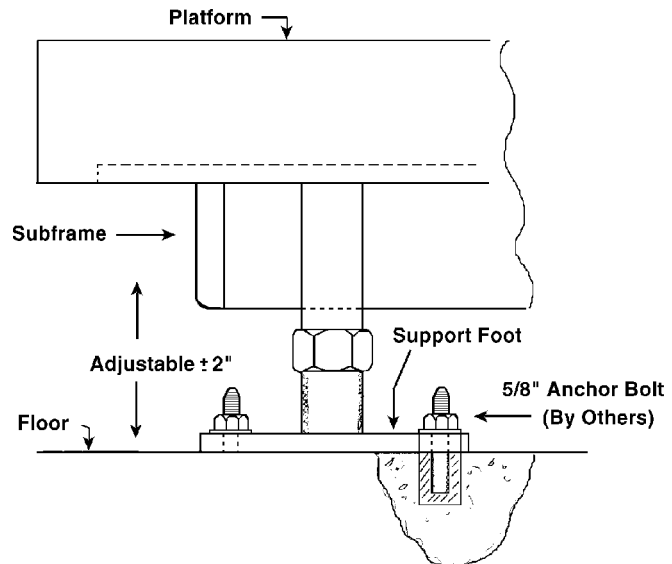

Figure 2-3: Anchoring the Scale Subframe
4. Once the scale has been adjusted to the correct height, bolt its support feet to the floor, using 5/8" anchor bolts positioned 180° apart (see Figure 2-3). Use a wedge-design expansion anchor such as Hilti's Kwik Bolt II, KB II 58-434 (Item no. 00045371), 5/8" x 4.75" long carbon steel anchor.